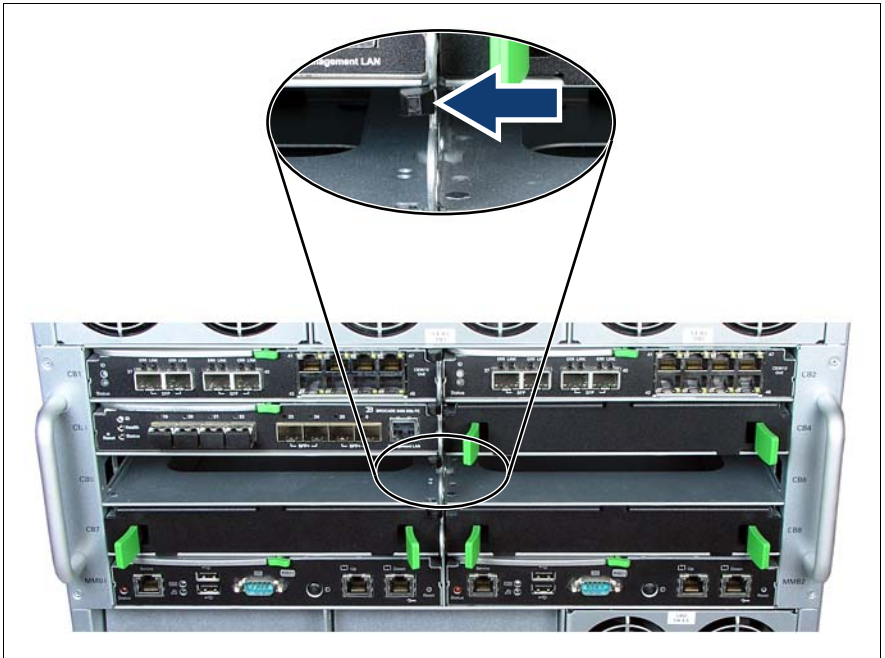

Figure 46: Removing the separating clip
- Remove the separating clip by pressing the little black lever (see blow-up in figure 46) to the left and pulling out the separating clip.